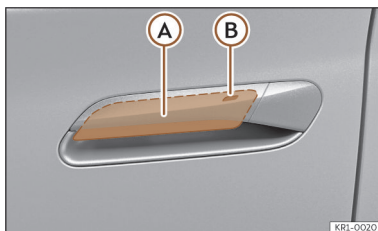

Fig. 69 Door handle: sensor surfaces.
>>> **Fig. 69**
- Touch the sensor surface (B) >>> Fig. 69 on the outside of the door handle. All turn signals flash once.
- Within 5 seconds, touch the sensor on the outside of the door handle once >>> **Fig. 69** . Do not grip the handle while doing so. This temporarily deactivates the Keyless Access system.